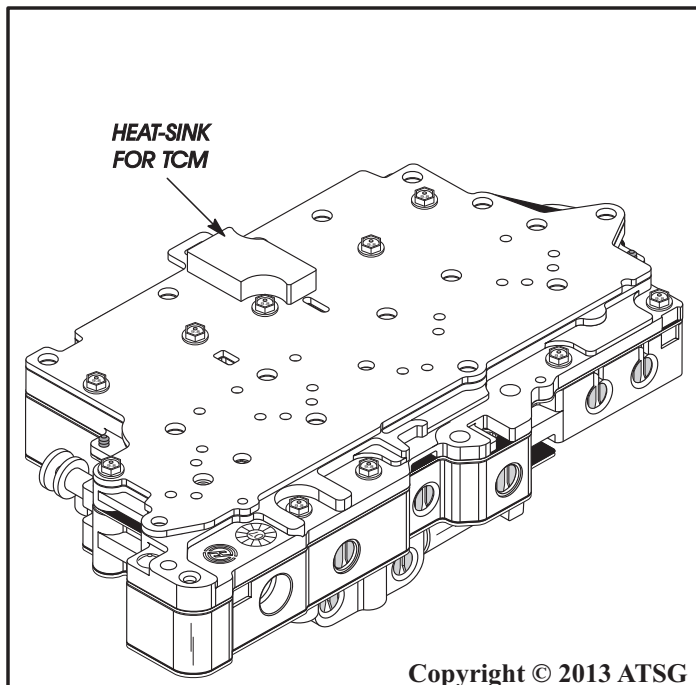

Figure 170
2. Place the valve body assembly on a flat work surface, as shown in Figure 170.
*Note: There is an aluminum block permanently attached to the steel upper support plate, as shown in Figure 170, that acts as a heat-sink for the TCM which is part of the solenoid body.*